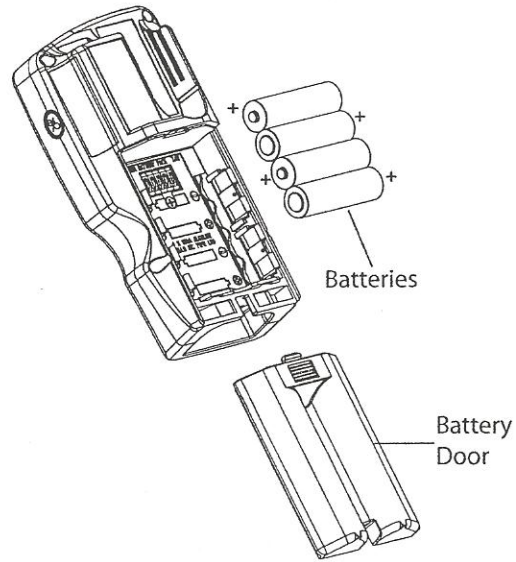
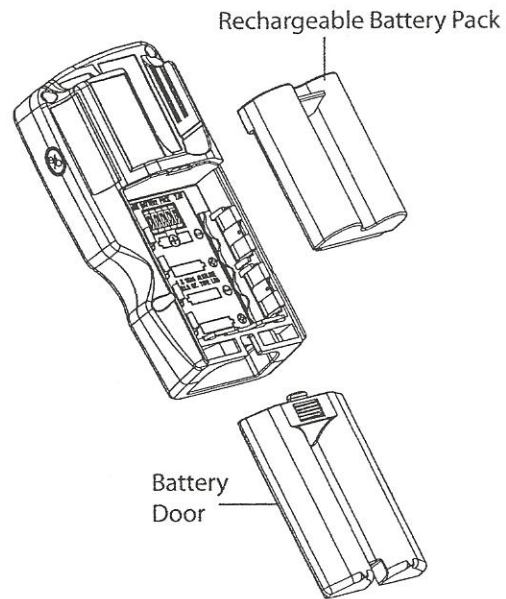

Figure 2A: AA (LR6) Alkaline Battery Placement
Figure 2B: Rechargeable Lithium-Ion Battery Pack
The oximeter uses four (4) standard "AA" alkaline, IEC Type LR6, cells (Figure 2A on the following page) or a custom rechargeable Lithium-Ion (Li+) battery pack (WW1090 - Figure 2B on the following page).